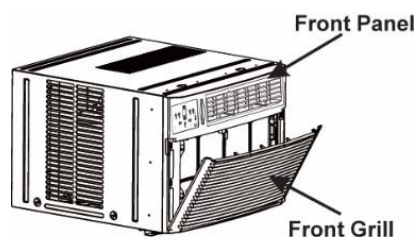

Fig.1
1. Pull down the front grill and remove the filter. (Figure 1)